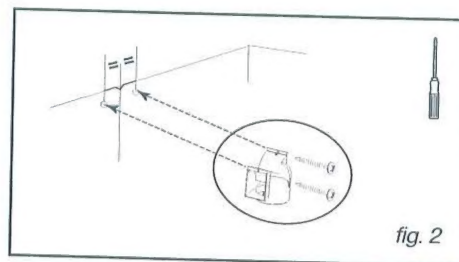

fig. 2
(fig. 2)
– Attach the suction hood to the 2 brackets using the two rectangular cut-outs (fig. 2). The size of the cut-outs allows you to adjust the fitting to the left or the right.
– Mount the back-flow valve near the motor outlet (fig. 2). This back-flow valve makes it possible to block the entry of air from the outside.
- Using the two screws (fig. 2), attach the plastic smoke deflector against the wall, flush with the ceiling. Be careful to centre the deflector in relation to the vertical line drawn on the wall (fig. 2).
- Remove the filter cartridge (fig. 2).